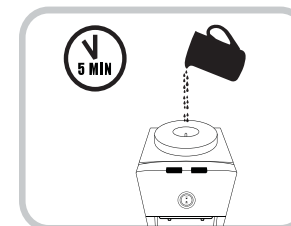

Fig.2
3. Fill the water reservoir with tap water full to capacity until it settles 1 inch above the Hot Water Funnel. Allow the water to rest in the hot and cold water tanks for 5 minutes. (Fig. 2)